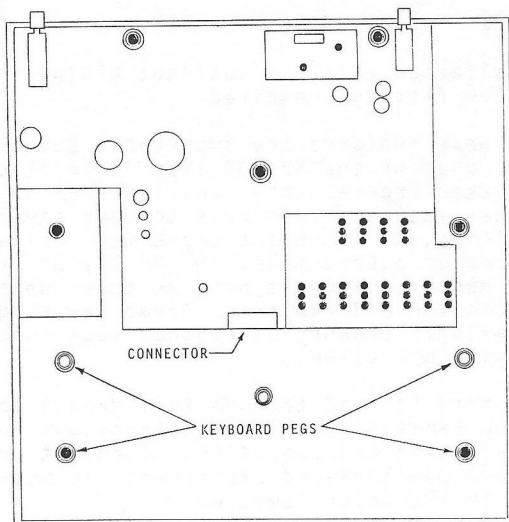

FIGURE 2
4. Refer to Figure 2. Remove the keyboard from the pegs and unplug the ribbon cable from the motherboard. Set it aside.